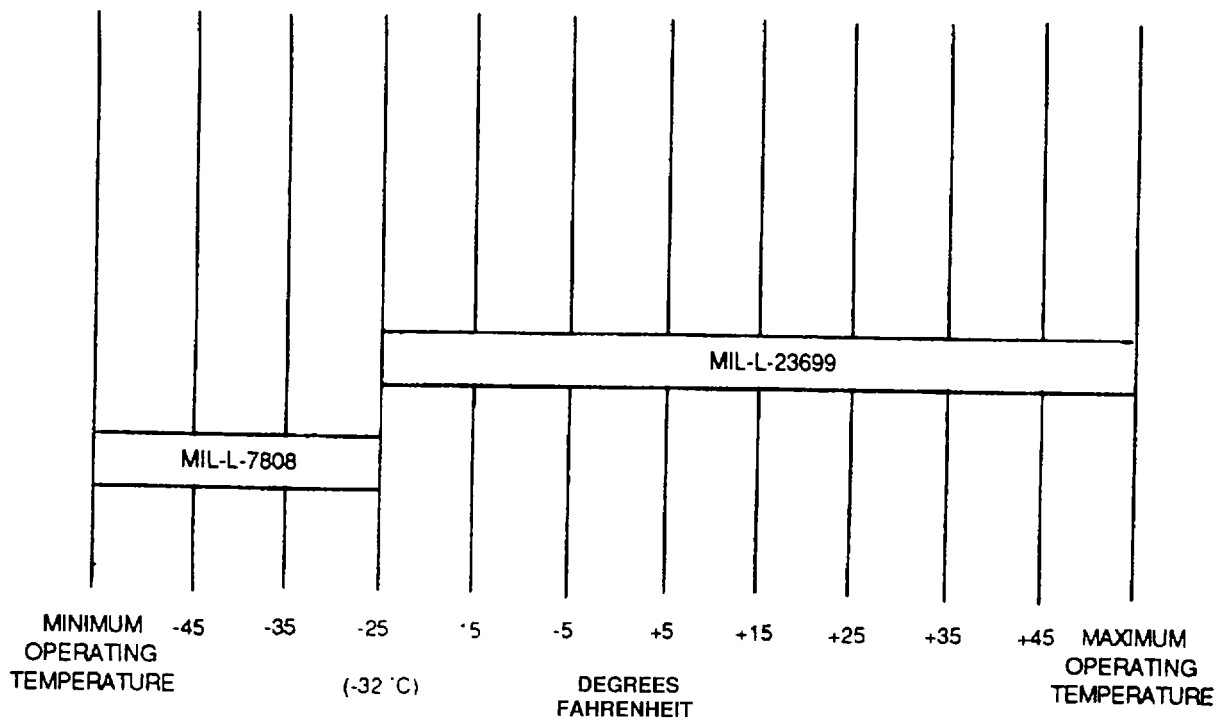

Figure 3-1. Turbine Engine Oil Use Temperature Chart
(1) *Turbine engine oil MIL-L-23699.* This oil has a greater life than MIL-L-7808 and has generally replaced MIL-L-7808 in the temperature ranges shown in figure 3-1. This is recommended oil for all new and overhauled turbine engines.
(2) *Turbine engine oil MIL-L-7808.* This oil is used in extreme low temperature ranges, as shown in figure 3-1.